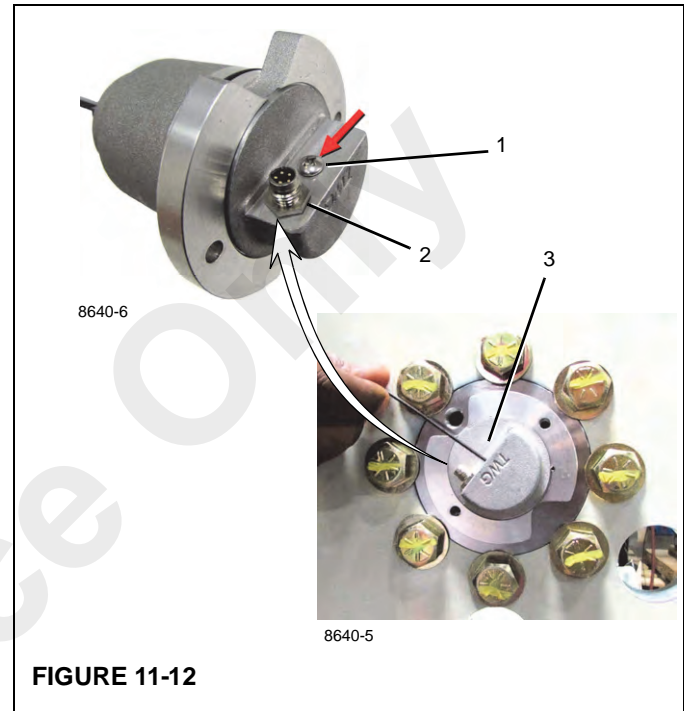

FIGURE 11-12
2. Remove power from the LLI by disconnecting the DRI cable (2, Figure 11-12).
3. Remove the sealed HMS programming button cover screw (1, Figure 11-12) on the DRI.
4. Push and gently hold the programming button (3, Figure 11-12) and return power to the LLI by reconnecting the DRI cable.
**NOTE:** Failure to replace the programming screw (1, Figure 11-12) could effect the operation of the LLI.
3. Remove the programming button cover screw (1, Figure 11-12).